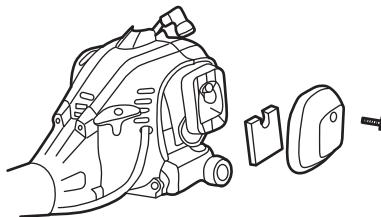

Fig. 27
2. Open the air filter case (A5) with the cross-head screwdriver (E1), and remove the filter. (See Fig. 27)